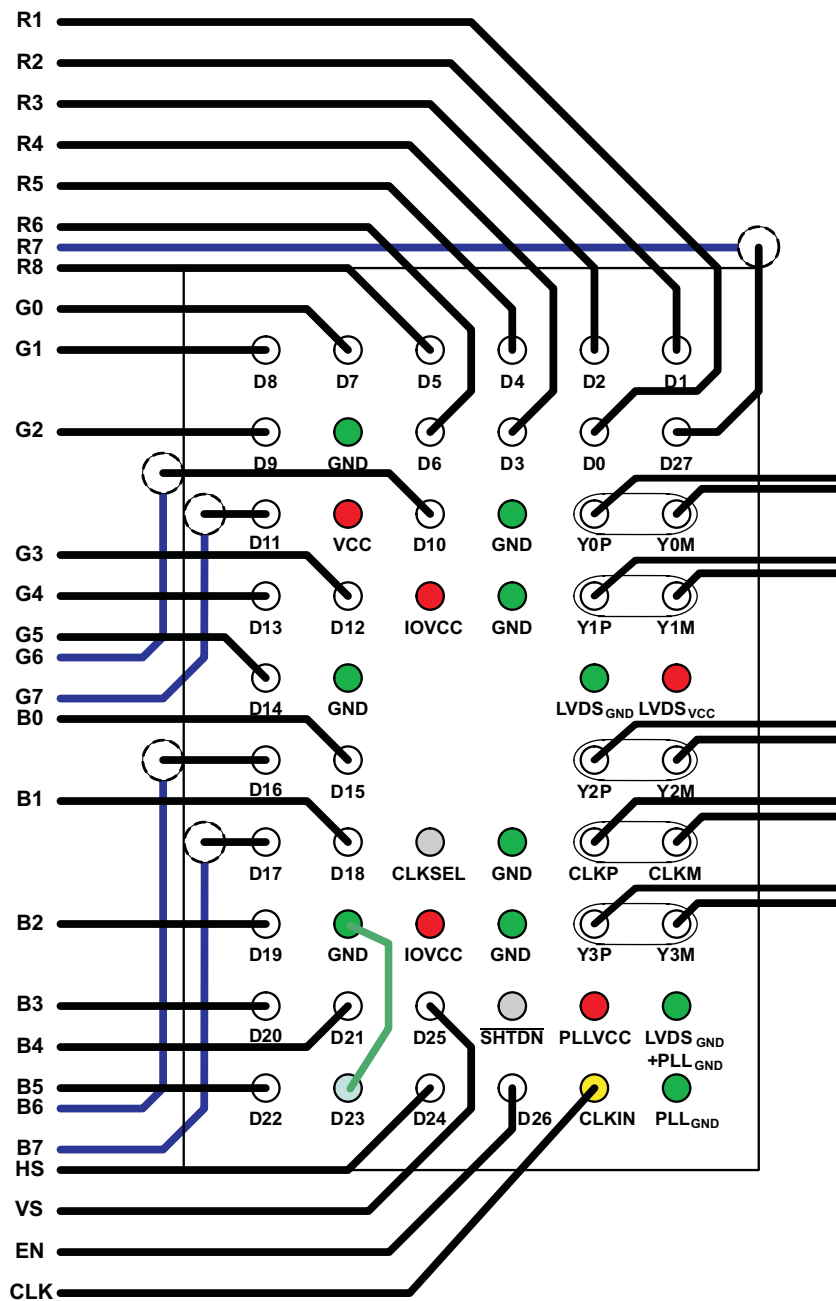
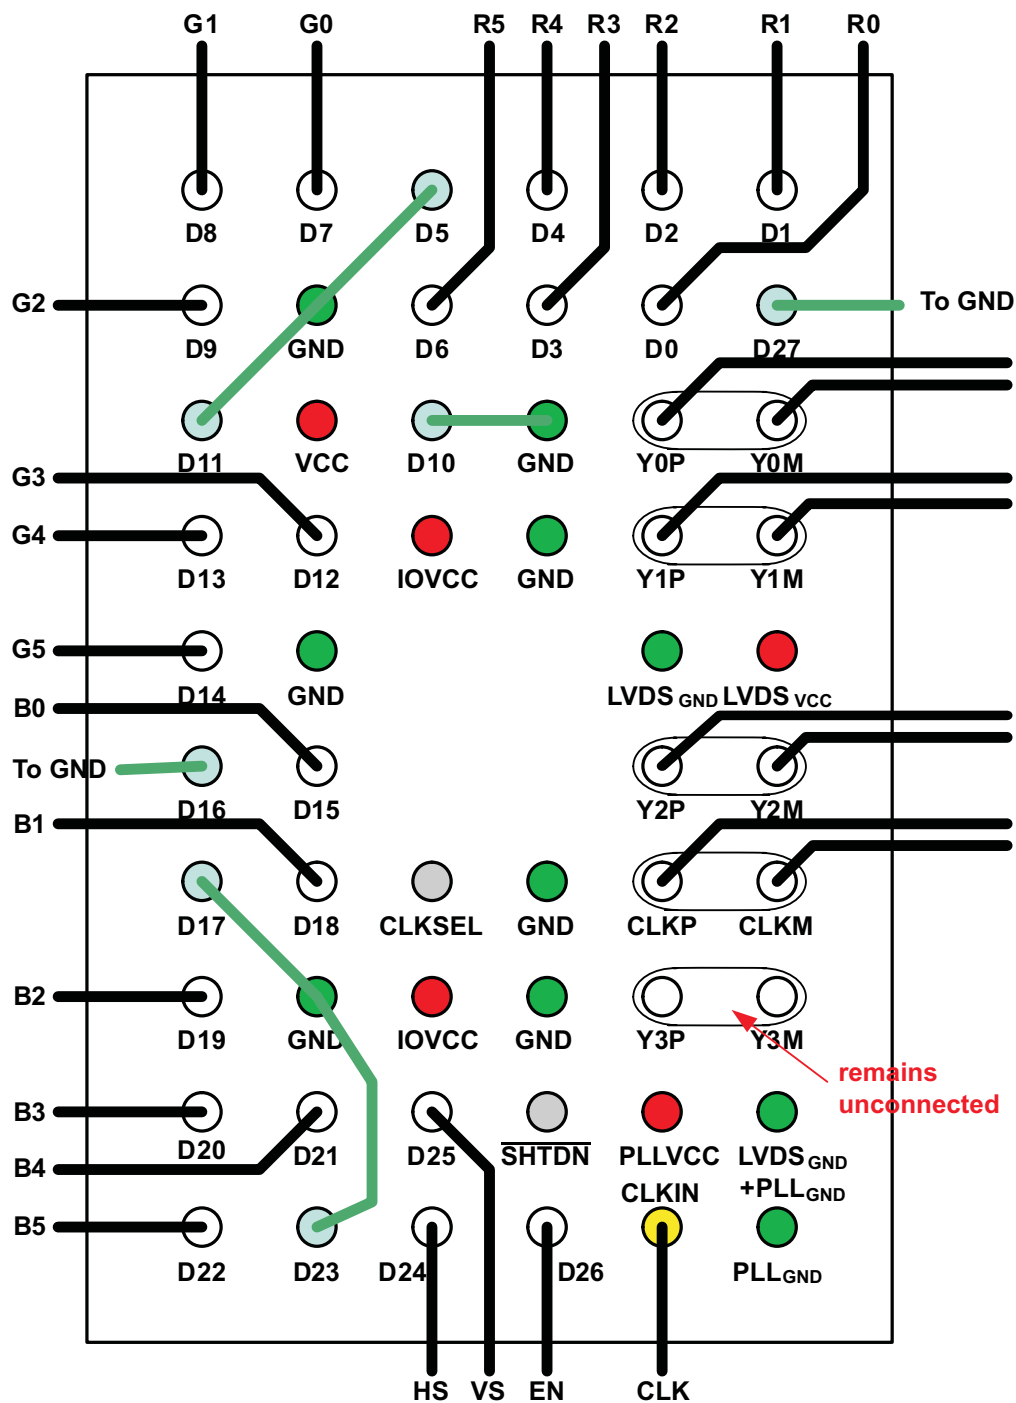

Figure 19. 24-Bit Color Routing (See Figure 14 for the Schematic)
Figure 20. 18-Bit Color Routing (See Figure 15, Figure 16, and Figure 17 for the Schematic)
Figure 19 and Figure 20 show a possible breakout of the data input and output signals from the BGA package.
• Changed <a href="#">Figure 19</a> - removed 3 GND pin locations. ....	<a href="#">21</a>
• Changed <a href="#">Figure 20</a> - removed 3 GND pin locations. ....	<a href="#">22</a>
• Added connection between GND and D23 to <a href="#">Figure 19</a> .....	<a href="#">21</a>